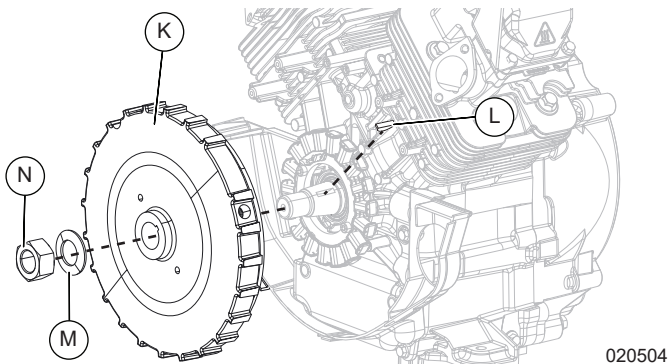

Figure 6-24. Remove Flywheel
- See Figure 6-24. Remove nut (N), washer (M), flywheel (K), and woodruff key (L) from crankshaft.